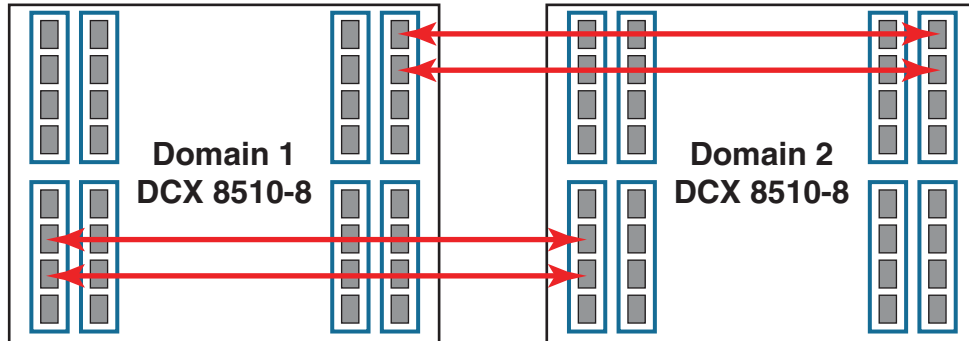
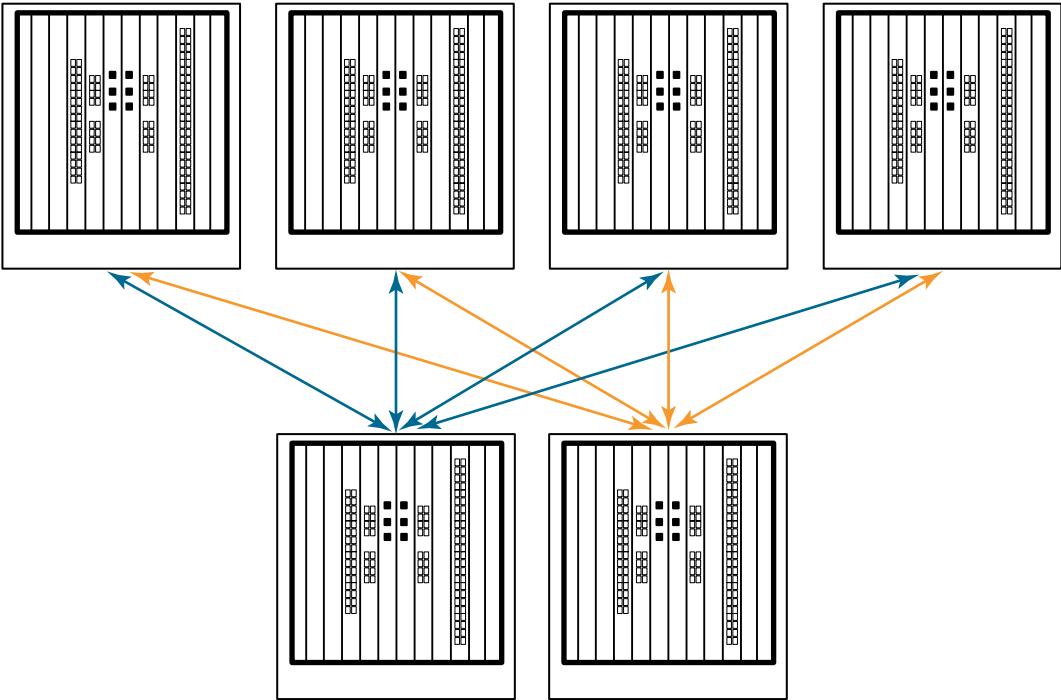

FIGURE 73 Minimum configuration for 64 Gbps ICLs
FIGURE 77 64 Gbps ICL core-edge topology
- For High Availability, you should have at least two ICLs from each core blade. Figure 73 shows two Brocade DCX 8510-8 chassis connected with full redundancy using four ICL connections.
To establish ICL trunking between platforms in the Brocade DCX 8510 Backbone family, the QSFP cables must be in the same trunk group, as illustrated in Figure 73.
You can also connect the Brocade DCX 8510 Backbones in a core-edge topology. For example, Figure 77 shows six chassis connected in a core-edge topology (four edges and two cores).
Although Figure 77 shows only the Brocade DCX 8510-8, each chassis can be either a Brocade DCX 8510-4 or a DCX 8510-8. You can have up to eight edges with DCX 8510-8 cores or up to four edges with DCX 8510-4 cores.
Each line in Figure 77 represents four QSFP cables. The cabling scheme should follow the parallel example shown in Figure 73.